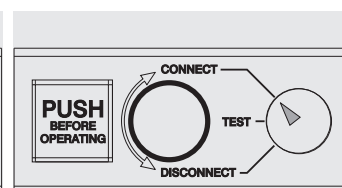

Figure 53
- circuit-breaker in CONNECT position (see Figure 53)